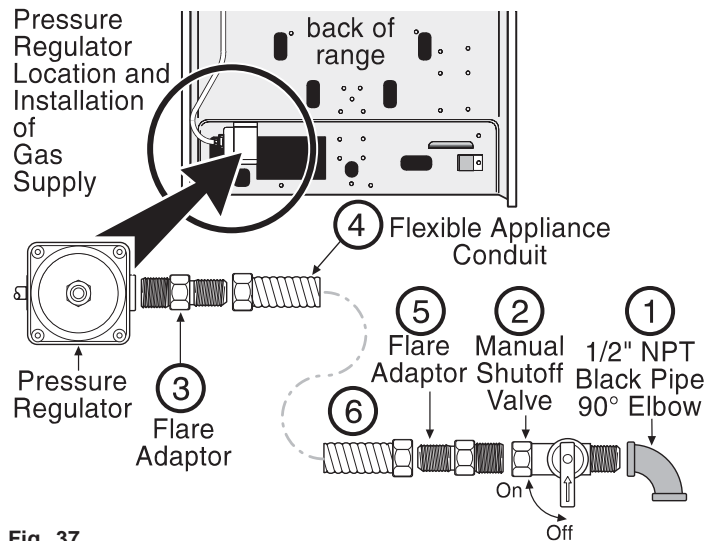

Fig. 37
This range is pre-set to operate on 4" natural gas manifold pressure. A convertible Pressure Regulator is connected to the manifold and **MUST** be connected in series with the gas supply line (Refer to Fig. 37). If the LP/Propane conversion kit has been used, follow instructions provided with the kit for converting the pressure regulator to LP/Propane use. The LP Kit can be found on the back side of the range or ordered from your dealer.
E Connect the range to the gas supply (refer to Fig. 37).
Before connecting gas supply to range, **review the suggested power source location drawings** (Figs. 1, 3 & 4). To prevent leaks apply pipe joint sealant on all male (outside) pipe threading. The Pressure Regulator can be found mounted to the lower left rear of range (See Fig 37). To install the gas supply:
- 6.) Attach flexible Appliance Conduit to Flare Adapter on Shut-Off Valve (Fig. 37).